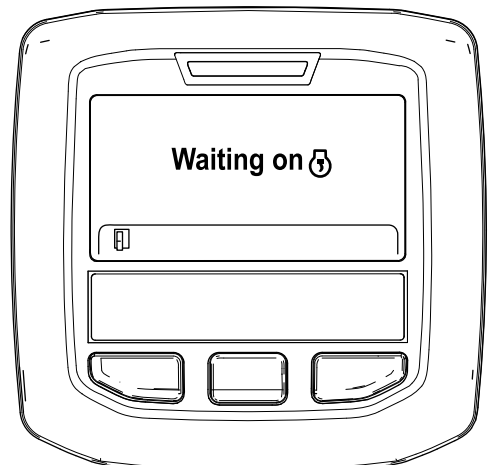

Figure 54
- B. The "Waiting on [engine icon]" message displays (Figure 54).